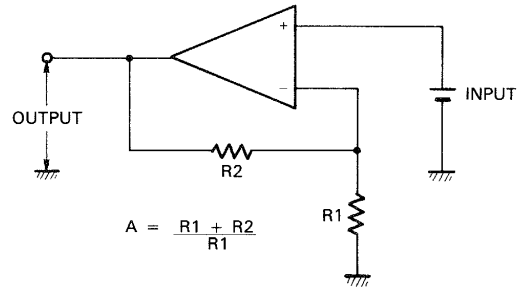
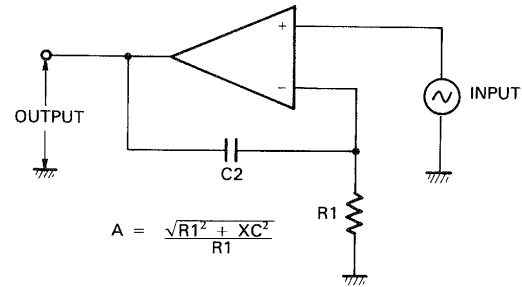

Fig. 32 Gain of OP amp (1)
Fig. 33 Gain of OP amp (2)
The gain of the amplifier in Fig. 32 is determined by  $(R_1 + R_2)/R_1$ . In Fig. 33, the reactance of  $C_2$  becomes infinite when the signal frequency decreases to 0Hz (DC). Then the gain of  $Q_{33}$  becomes 100dB (open gain of  $Q_{33}$ ) and the output becomes almost equal to  $V_{cc}$  (+ or -14V). In A-7,  $C_2$  and  $R_1$  are 4.7/50 and 22k $\Omega$  respectively.
The gain of the entire DC servo circuit is shown in Fig. 29. A DC servo circuit is employed in A-7, A-8 and A-9 to stabilize DC output. Let's see how it works. If a positive DC offset voltage ①  $f$  appears at the output for some reason, it is divided by  $R_{77}$  and  $R_{79}$ , ②  $f$  is applied to the positive input of  $Q_{33}$  to be amplified, ③  $f$  appears in  $R_{83}$  and is applied to  $Q_1$ 's right gate, which is the negative feedback input, and the corrective voltages appear in the following stages as ④  $\searrow$  - ⑩  $\searrow$  to cancel the offset voltage as show in Fig. 33. If the DC offset voltage is negative, the direction of the corrective voltages will be reverse to those indicated.